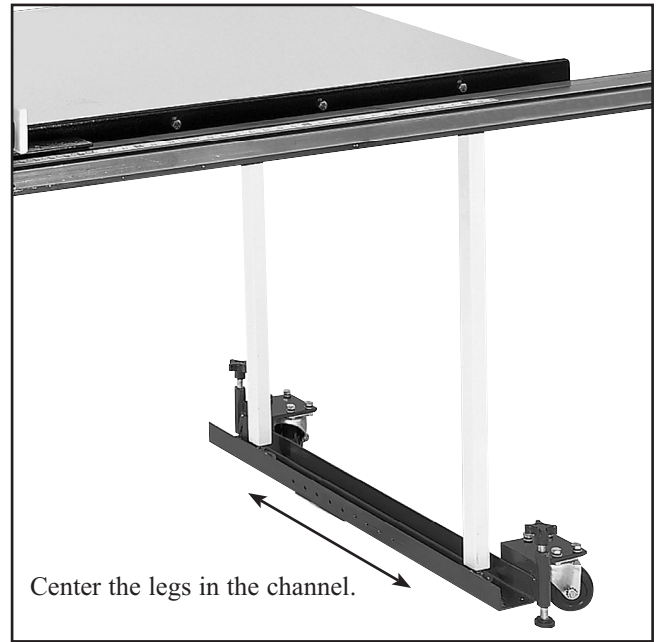

Figure 6. Extension table legs on channel.
7. Take the rod with the attached black rubber pad and insert it into the bottom of the leg post. Now take the threaded rod with the knob and thread it into the top of the leg post. See **Figure 6**. The rod on which the foot pad is mounted is magnetic, and when the threaded knob comes in close enough proximity, it will pick up the lower rod. With the Mobile Base sitting on the floor, adjust the knob down so the pad is not in contact with the floor. Do this same procedure for the post on the other corner.
3. If not already assembled, install the extension table on the machine. Place the extension channel assembly under the legs of the installed extension table. **See Figure 6.** The two swivel casters must be positioned so they are on the outside-edge. Center the table legs along the length of the channel. Measure the distance from the outer edge of the side rail to the side of the extension channel. The extension bar should be cut to this length less approximately $\frac{1}{2}$ " (this allows for alignment of the holes). Locate your cut so that it is centered between two of the threaded holes. Use a hacksaw and mount the bar firmly in a vise or clamp to a bench top to do the cutting.